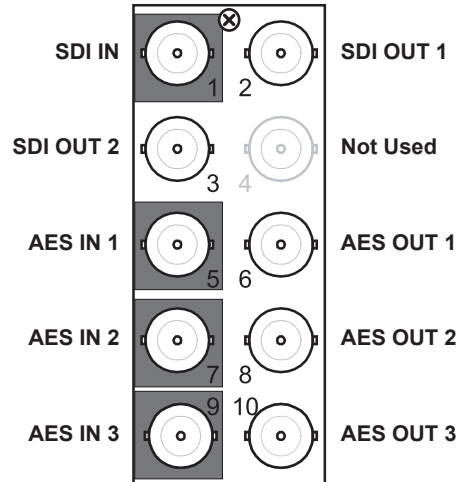

Figure 5.3 Cable Connections for the SFS-8622-A
**Figure 5.3** illustrates the cabling designations for one SDI input, two SDI outputs, three AES-3id 75ohm unbalanced inputs, and three AES-3id 75ohm unbalanced outputs. The **AES I/O Config** is set to **3 in, 3 out**.